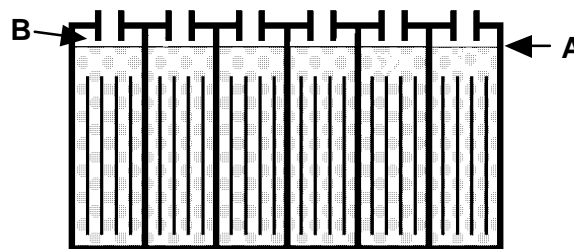

FIG. 22
- Recheck battery electrolyte level (A) after charging. Add distilled water to bring level 1cm from bottom of sight tubes (B). Replace cell caps securely and wipe off the top of batteries with a clean cloth (Figure 22).